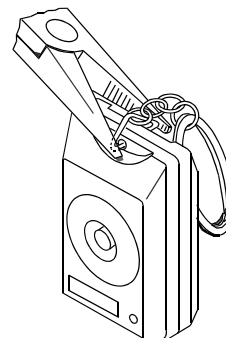

Figure 4. Keyring Installation
E. Slip the key-ring triangle through the last link of the keying chain and install the triangle into the hole on the top of the MCT-231 (Fig. 4).